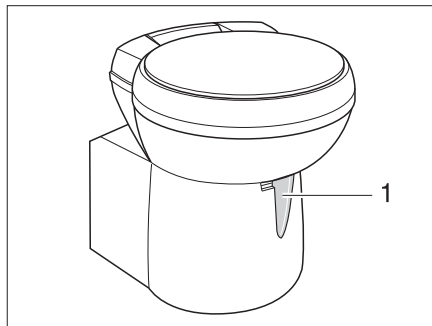
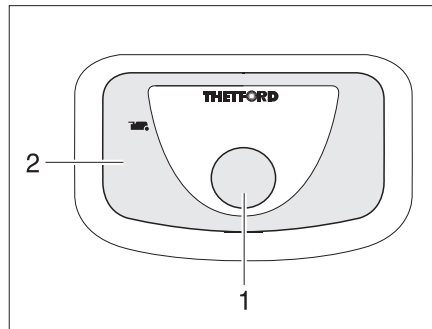

Fig. 157 Thetford toilet bowl, swivelling
Fig. 158 Flush button/indicator lamp
- Before flushing open the sliding trap of the Thetford toilet. To do this, push the slide lever (Bild 157,1 or Bild 158,1) in an anticlockwise direction.
- For flushing, press the blue flush button (Bild 157,1 or Bild 158,1).
The indicator lamp (Bild 157,2 or Bild 158,2) goes on whenever the Thetford cassette has to be emptied.
- Push the slide lever (Bild 157,1 or Bild 158,1) in a clockwise direction. The sliding trap is closed. To empty, the sliding trap in the Thetford toilet **must** be closed.